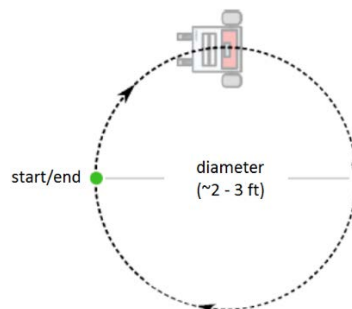
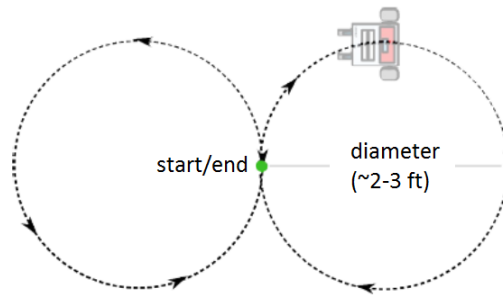

Figure 8: Circle Robot Motion
Figure 9: Figure Eight Robot Motion
Part 4 – Circle and Figure 8
1. Write a “*moveCircle()*” function to move the robot in a circle with the diameter and direction as the input (see Figure 8). You should call the *moveCircle()* function from the *loop()* function. Turn on the RED LED when the robot is moving in a circle.
3. Next, create a “*moveFigure8()*” function to move the robot in a figure eight using two circles (see Figure 9).
4. Try to adjust the code so that the robot passes through the same center point of the figure 8 each time. You should call the *moveCircle()* function twice to create the *moveFigure8()* function. This means you may need to modify the *moveCircle()* function pass it a direction variable. You should call the *moveFigure8()* function from the *loop()* function. Turn on the RED LED and YELLOW LED when the robot is moving in a Figure 9.
5. Use the reference frame shown in Figure 8 for the *goToGoal()* behavior.